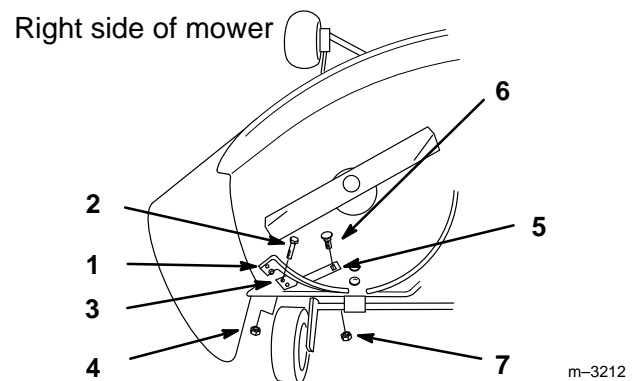

Figure 4
1. Place (2) 5/16-18 x 1" (26 mm) bolts through baffle, (2) washers as required from fitting and existing holes in mower. Secure with (2) 5/16" flange locknuts (Fig. 4).
2. Using the baffle as a guide, drill a 13/32" hole where the baffle tab aligns with the rear right side of the mower (Fig. 4).
3. Locate rear right baffle tab over drilled hole and install new 3/8-16 x 1" (26 mm) carriage bolt, with head on the inside. Secure with 3/8" locknut (Fig. 4).